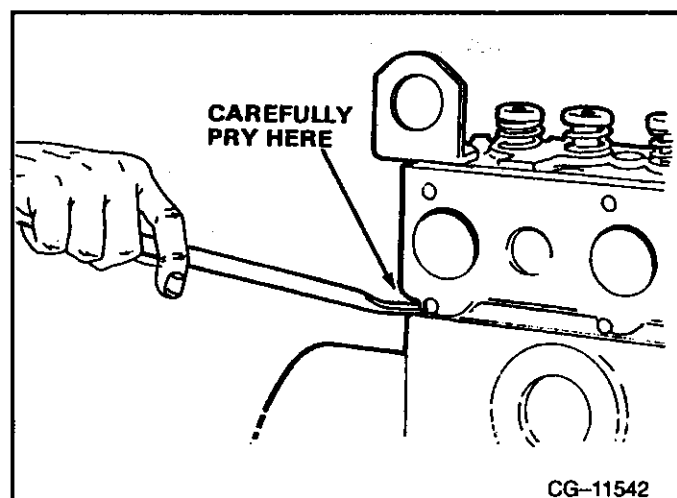

FIGURE 7-10
1. Using a small pry bar, carefully pry the cylinder head loose from the gasket, so the cylinder head will lift off easily (FIGURE 7-10).